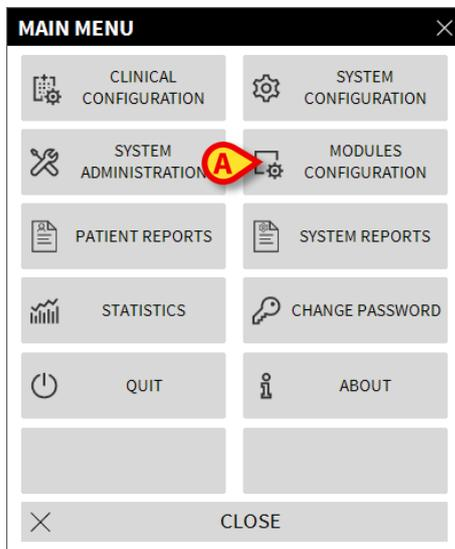

Fig 88
The following menu is displayed (Fig 88).
- Click on **Modules Configuration** (Fig 88 A)